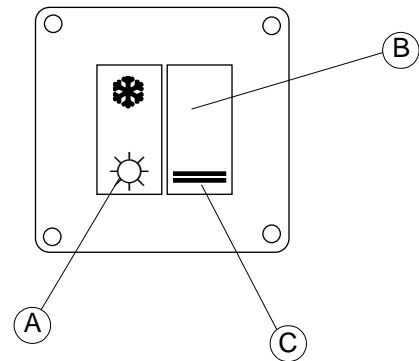

Figure 23
- 4) Press the button A summer/winter in the position winter ❄️ (see figure 23)
- 7) Otherwise the flame control unit locks out the heater: the gas supply to the burner is shut off and a lock-out light C on the reset button B lights up (see figure 23).
- 8) When default described at item 7) occurs, press the reset button B.
thus preventing re-ignition. When electricity returns, push the reset button which is placed externally, on the rear panel, under the black cover cap (see figure 23).